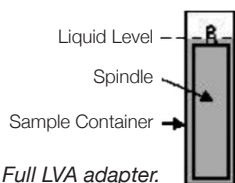

Fig. 11: Full LVA adapter.
- Assemble the viscometer again starting with the base. The extension (X) is necessary because of the length of the LVA adapter. Without this extension the assembly of this accessory would be difficult, especially the assembly of the spindle.
- Close the sample container (K) with the stopper (M).
- Insert the container (K) to the lower part, in the circulation jacket (J) by turning it gently.
- Fasten the circulation jacket (J) to the connector (G).
- Connect the hook (H) and the spindle (L)
- Insert the spindle (L) in the circulation jacket (See the **note * below**)
- Fasten the connector (G) to the hole in the back of the viscometer's metallic base. (See the **note ** below**)
- Check the level of the sample. It should be approximately in the middle of the cone, which is connected to the spindle connector (H). Fig. 11 shows more information about this.
- Place the upper stopper (N) over the sample container.